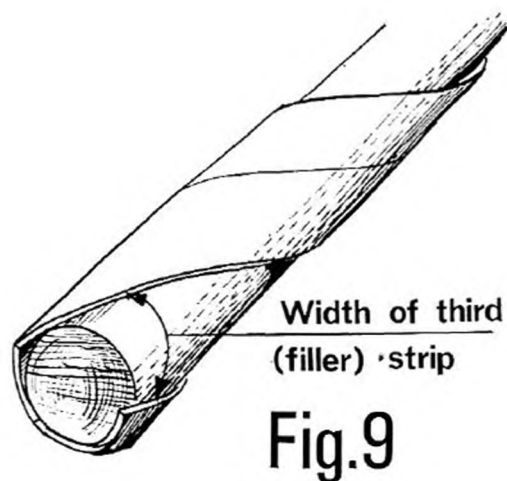

Fig. 9
- (v) The *actual* space, top and bottom, is measured at  $90^\circ$  between the edges of pieces 1 and 2. A third balsa strip is then cut and wrapped (wet) in position, and allowed to dry (Fig. 9). When dry begin partial removal of the bandage.